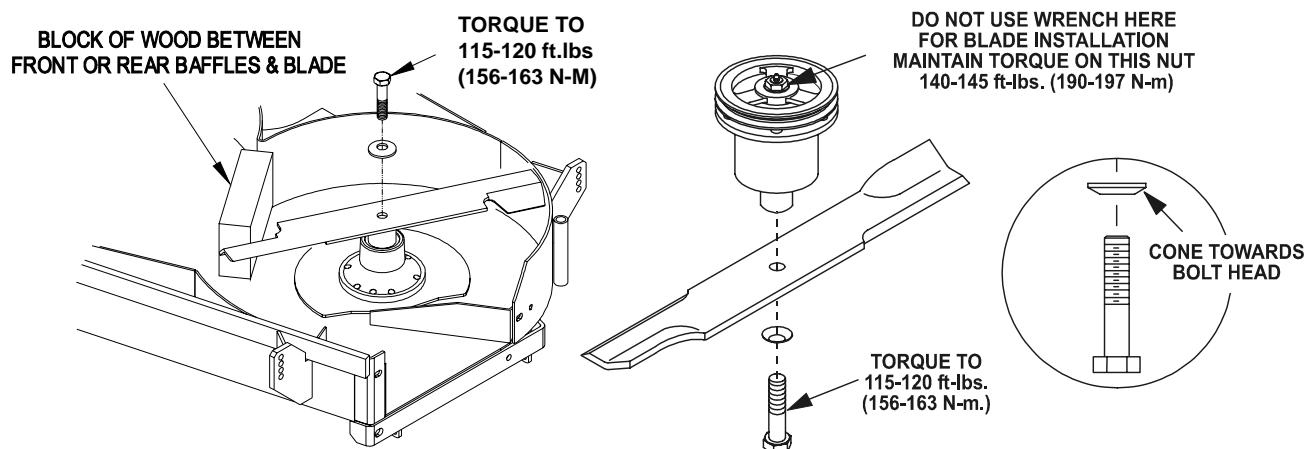

FIGURE 7
- Re-install the blades (if they were removed) by placing a block of wood between the front or rear baffles and the blade then torque the blade bolts to 115-120 ft. lbs (156-163 N-M). Be sure the spring disk washer cone is installed toward the bolt head. (See Figure 7).